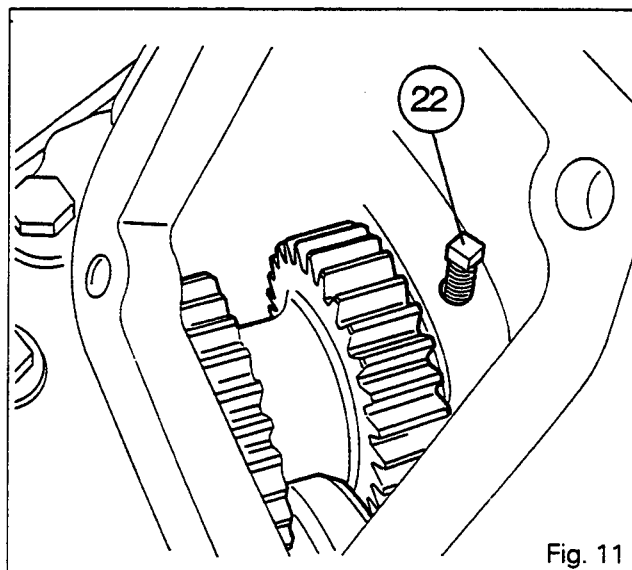
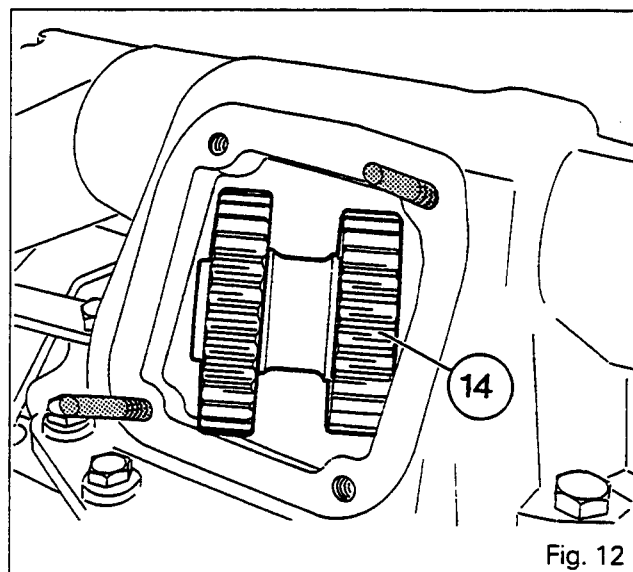
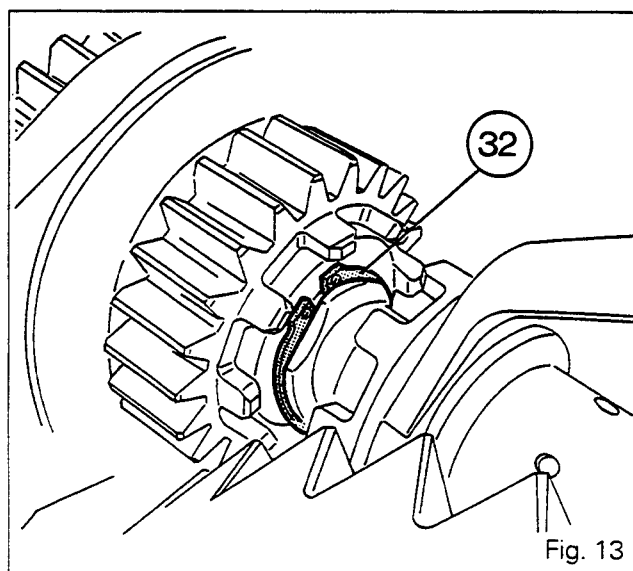

Fig. 11
Fig. 12
Fig. 13
66. Remove the nut (25) and the locking screw (24) of the fork (26).
67. Remove the screw (22) (Fig. 11).
68. Withdraw the shaft (23) from the compound pinion assembly (14) in order to disengage the fork (26).
**Note : To disengage the fork alone, gently pull the shaft (23) towards the rear.**
69. Remove the friction washers (16) and (21).
70. Withdraw the compound pinion assembly (14) (through the aperture of the spool valve support for version without shimming only) (Fig. 12).
71. Remove the needle roller bearings (17) and (20) and the spacer (19) of the pinion (18).
72. Remove the circlip (32) (Fig. 13).
73. Withdraw the pinion (13) and shaft (35) assembly held by the washer (5) and bolt /6.
74. Remove the flat washer (33).
**Hold the pinion (34) and the needle roller bearing (28).**
**The bearing cone (4) remains in the cup (3) during removal of the pinion (13).**
75. Remove the pinion (34) and the needle roller bearing (28).
76. Remove the bearing cone (4).
77. Remove the hexagon socket setscrew (27) (if necessary).
78. Withdraw the shaft (2) and the coupler (31) (if necessary).